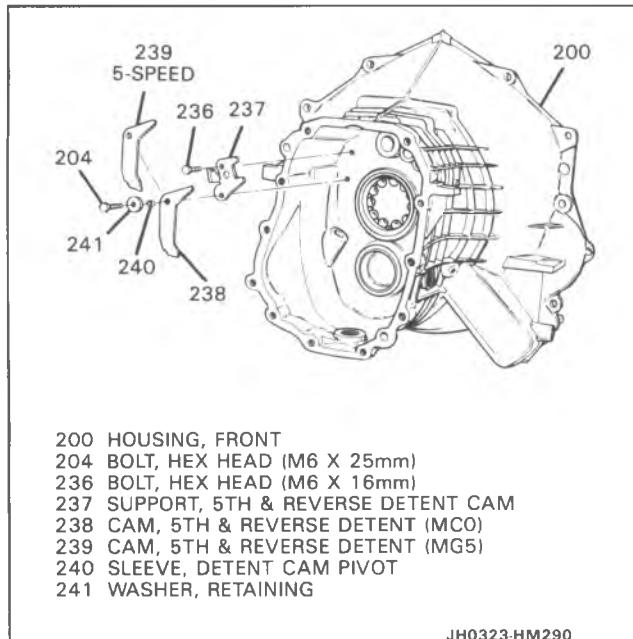

Figure 60 Detent Components Install
8. Detent cam support (237) and bolt (236) (Figure 60).